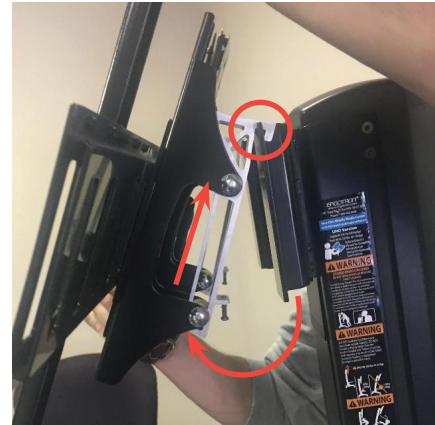

Figure 7 - Removing bracket from monitor stand
Step 8 Move the bottom of the bracket away from the monitor stand then upward, following the arrows shown in Figure 7, to free the aluminum hooks, circled in red, from the monitor stand.
- Remount bracket to monitor stand by positioning the bottom of bracket outwards to latch the aluminum hooks to the stand as shown in Figure 7